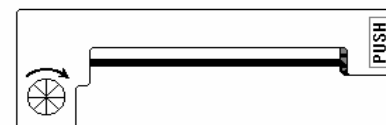

Figure 2-4 Ribbon
- 2 Push the button mark with “push” (refer to figure 2-4) and take out the cassette